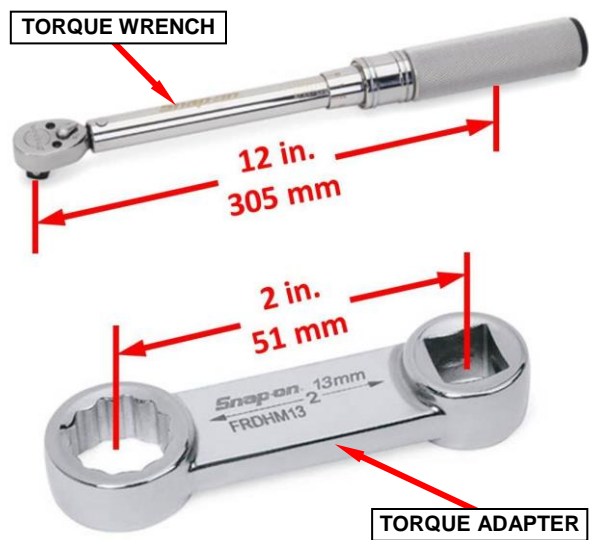

Figure 12 – Required Tools
15. Obtain a Snap-on FRDHM13 or equivalent 13 mm Torque Adapter and a torque wrench with a handle length of approximately 12 in. (305 mm) in order to achieve the proper torque specification while tightening the trailer hitch-to-body attachment nuts (Figure 12).